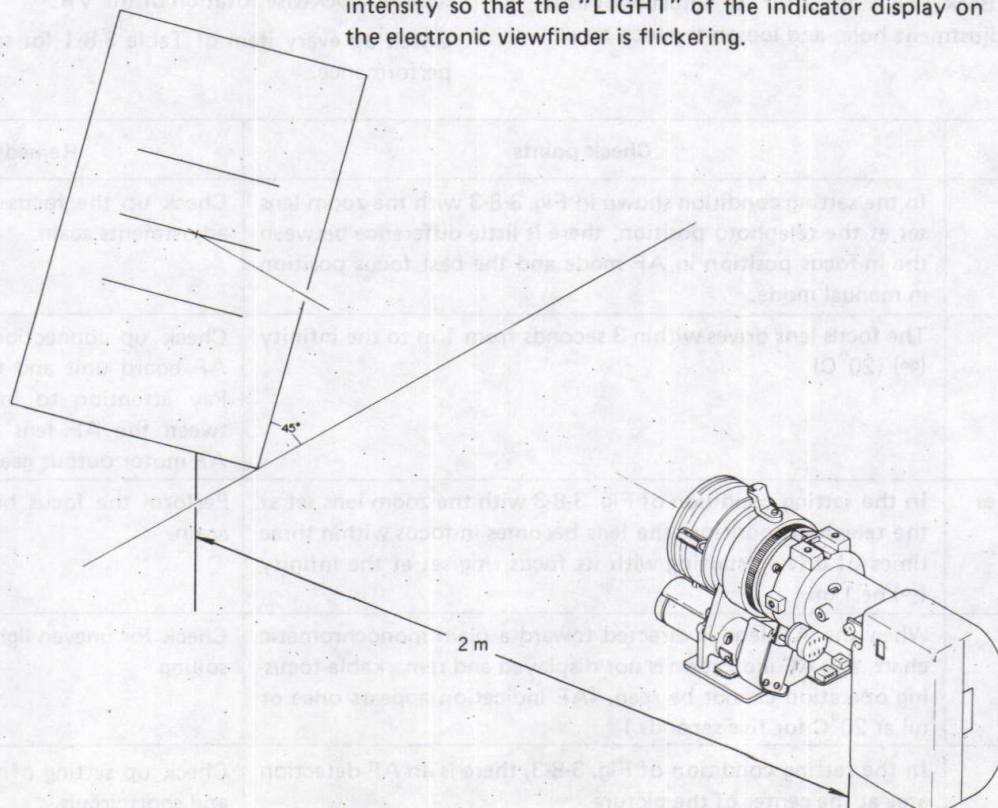

Fig. 3-8-3
1. Set up the AF adjustment chart and lighting equipment as shown in Fig. 3-8-3.